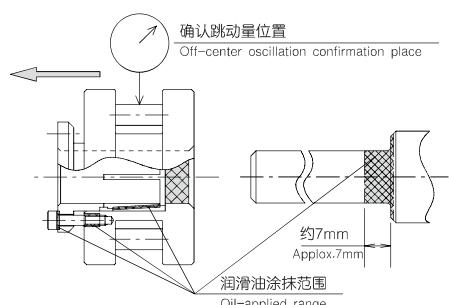

图4 /Fig. 4
2. 在轴上和滚轮接触部分以及涨紧套的各锥面、锁紧螺栓的螺纹部·头部座面轻轻涂抹润滑油或者润滑脂(图4、6)。
Lightly apply oil or grease to the shaft which directly contacts with the roller pinion, tapered area of the clamping tool, screwed area and head seat of lock bolt(Fig. 4 and 6).
注4. 在拧紧锁定螺栓时，滚轮会朝着图4箭头A的方向有若干移动。注意与齿条侧面的干涉。（对象为CP16~32型）
Note 4. Since the roller pinion moves slightly in the arrow A direction of Fig.4 when the lock bolts are fastened, watch out the roller pinion for the interference with the ring gear side (for CP16~32 types).